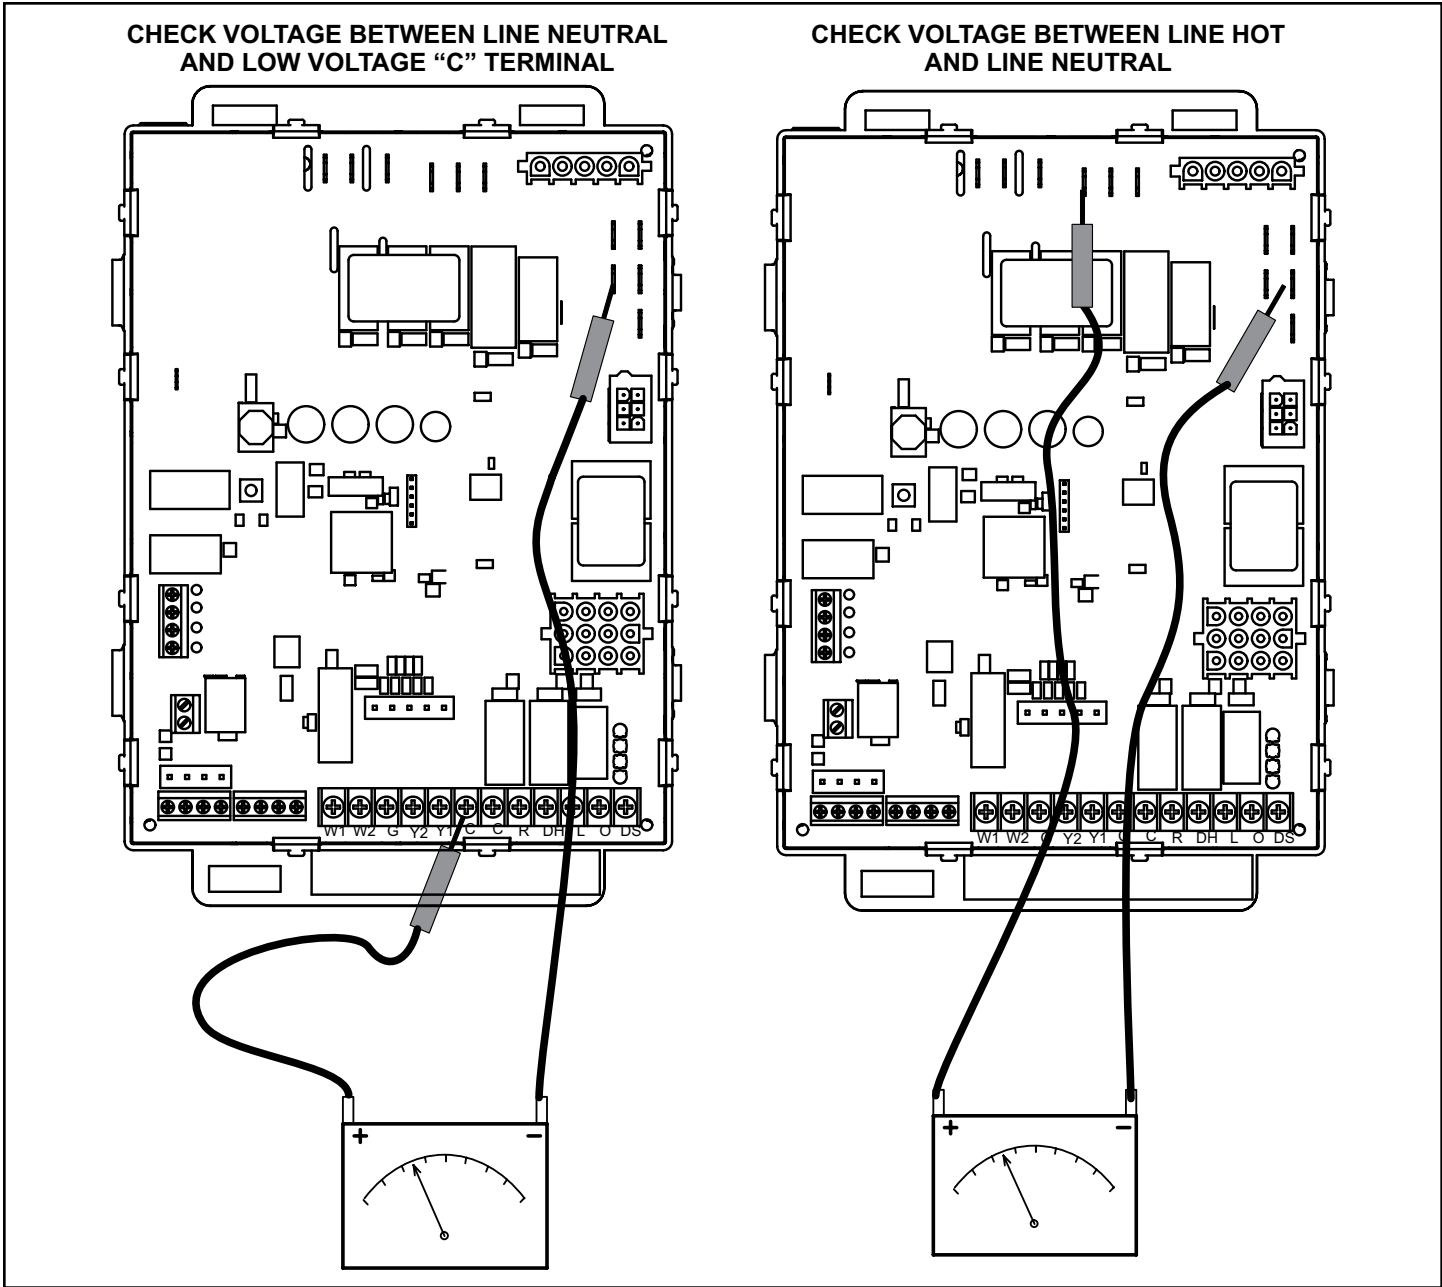

Figure 53.
- 1. Measure the AC voltage between Line Neutral (spade terminals) and “C” terminal (low voltage terminal block) on the integrated control. See Figure 53. A wide variation in the voltage between Line Neutral and “C” as a function of load indicates a poor or partial ground. Compare the readings to Table 26. If the readings exceed the maximum shown in Table 26, make repairs before operating the furnace.
- 2. In addition, measure the AC voltage from Line Hot to Line Neutral (spade terminals) on the integrated control. See Figure 53. This voltage should be in the range of 97 to 132 VAC